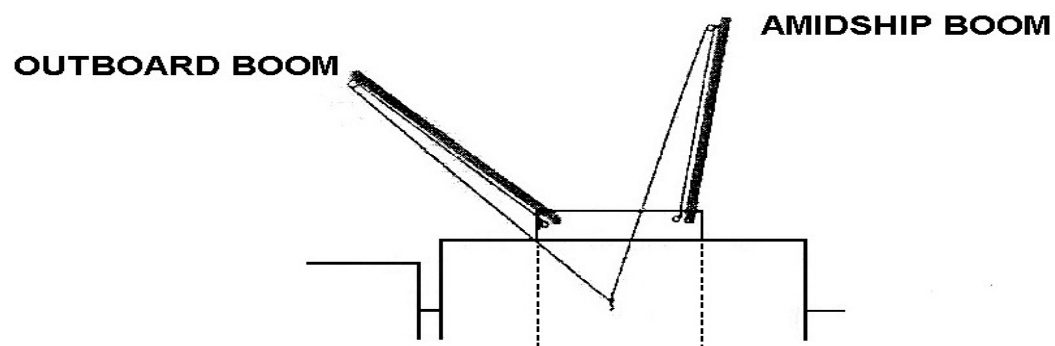

Figure 3-152
2. Direct the rigging of a west coast rig (see Figure 3-152).